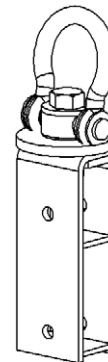

FIG. 12
The Swivel Lift Bracket (Fig. 12) is designed to bolt between the channels of a standard Versiform® waler using (2) two $\frac{5}{8}$ " x 5" long contour threaded bolts with double nuts. The swivel mount can rotate 360° degrees and the loop can rotate more than 180° in a horizontal plane. The Swivel Lift Bracket is limited to 4,000 lbs with a factor of safety of 5 to 1.